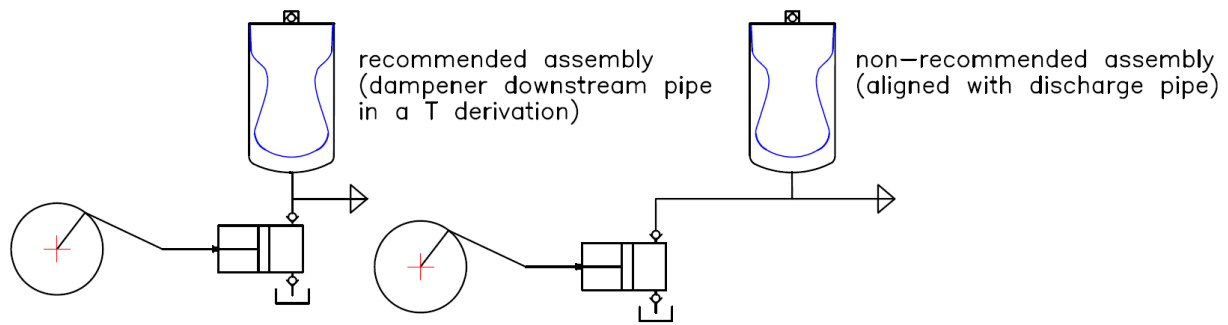
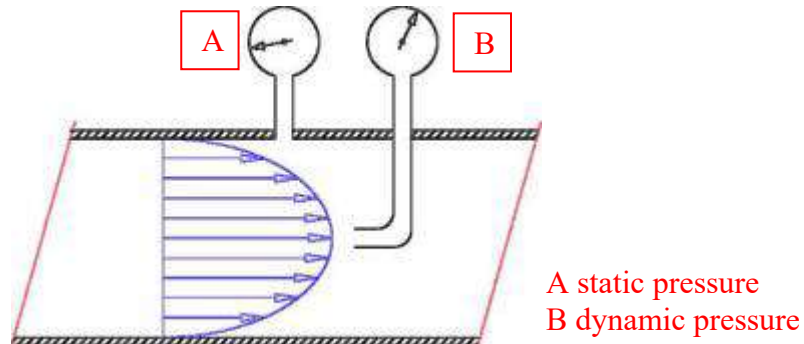
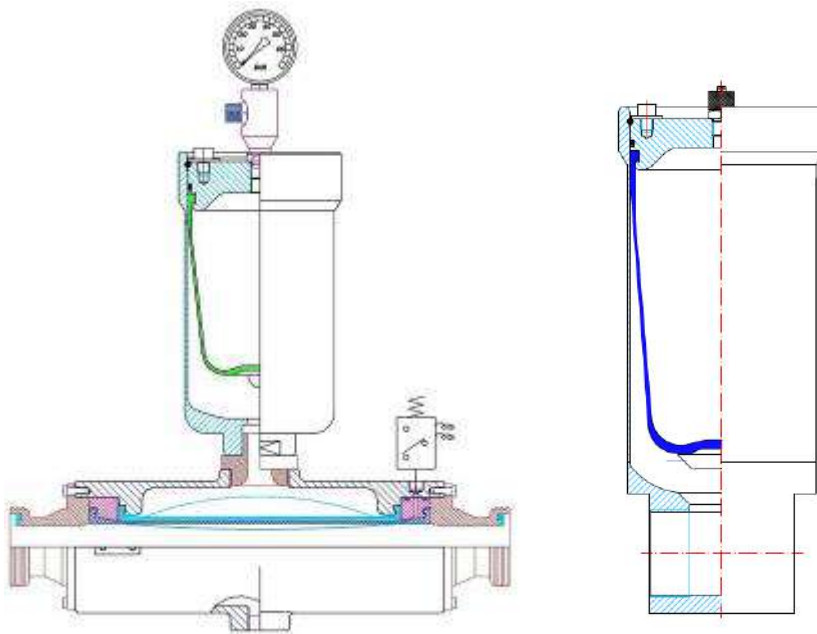

Figure 6. Scheme for the recommended installation of a discharge pulsation damper with one (1) single connection port.
Figure 8. Scheme of the dynamic pressure in a pipe cross section
Figure 9. On the left, IN-LINE hygienic dampeners. On the right, BLADDER dampeners with 2 connection ports
For pulsation dampeners with one (1) unique connection port, **HIDRACAR S.A.** recommends installing the dampener with its axes aligned with the pipe discharge line, and the rest of the pipe downstream the dampener in a T derivation, see next **Figure 6**.
In order to illustrate the difference between the two pulsation dampener installation schemes in **Figure 6** into a circuit, and the higher efficiency that represents installing the pipe downstream the dampener in a T derivation, we will remember some fluid mechanics principles:
The scheme of **Figure 8** reflects this phenomenon: dynamic pressure reading (B) is the higher pressure and it is achieved in the dampener connection port of recommended installation (**Figure 6 left**); static pressure reading (A) is the lower pressure and it is achieved in the dampener connection port of non-recommended installation (**Figure 6 right**).
If the dampener is far from the pump outlet, the efficiency of the dampener will be reduced a great deal. And if on top of this, the dampener having one (1) single connection port is installed aligned with the pipe (as per scheme of **Figure 6 right**) and the pipe derivation conducting to the dampener have a smaller diameter than the main circuit pipe, then the effect of the dampener will be negligible.
HIDRACAR S.A. has available different IN-LINE solutions for pulsation dampeners with flow passing through (see on scheme of **Figure 9**). Those designs are specially indicated for those applications which require an installation as per scheme in **Figure 6 right** (for example: horizontal discharge pipes, collectors of multi headed pumps, etc).
Our NEW IN-LINE tube pulsation dampers (see on scheme of **Figure 9**), thanks to its special design without corners, can be cleaned in place using CIP processes (a cleaning agent is pumped in the circuit at certain pressure and temperature to clean all pipes and wetted elements in the circuit).